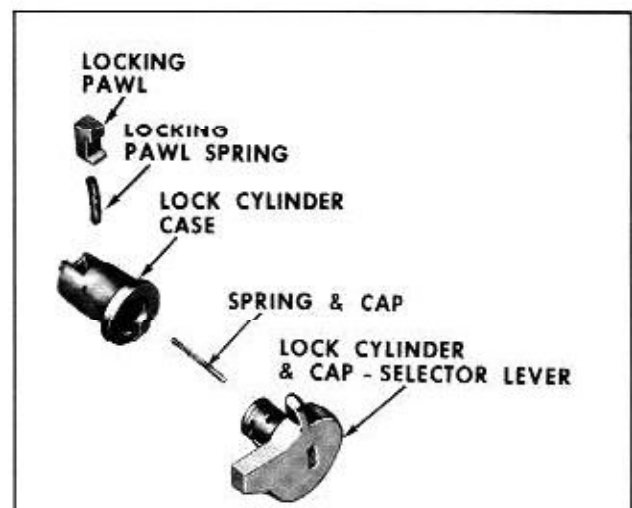

Fig. 17-194 Lock Cylinder and Case
- Insert a piece of wire (paper clip) in hole on face of lock cylinder cap. While holding lock cylinder case, depress plunger with wire sufficiently to allow key and selector lever to be turned counterclockwise approximately 1/8 turn; then, remove lock cylinder and cap assembly and detent spring from handle assembly. (Fig. 17-194)
NOTE: When removing lock cylinder and cap assembly from case, place finger over locking pawl to prevent pawl and spring from popping out. (Fig. 17-194)